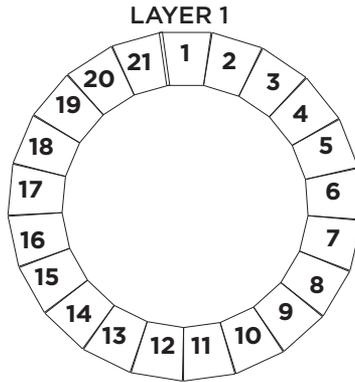

Figure C.1
- Once desired location for fire pit has been determined, start with placing first layer of bricks. Follow diagram on Figure C.1